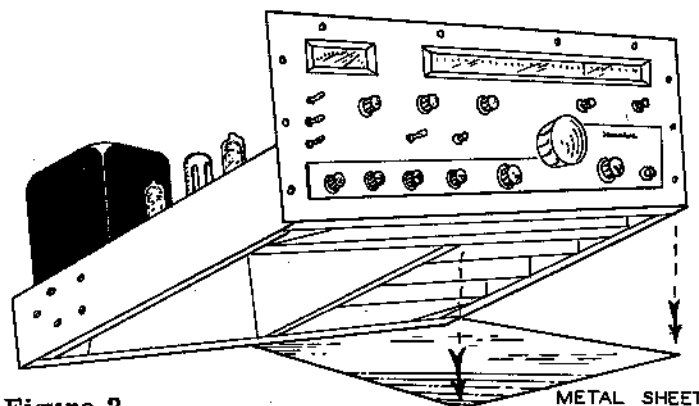

Figure 2
- () During the alignment of any band the receiver should be placed on a sheet of metal so that the bottom of the tuner assembly is completely covered. This will establish the same condition that exists when the unit is in its cabinet, and has a definite affect on the alignment. See Figure 2.